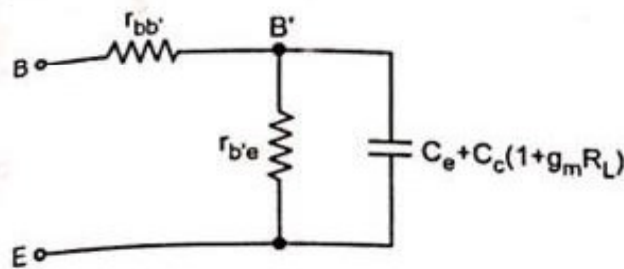

Fig. 3.12
From equation (2) we can say that input capacitance is increased. $C_C (1 + g_m R_L)$ is called **Miller capacitance** (C_M). With these approximations input circuit becomes, as shown in Fig. 3.12.